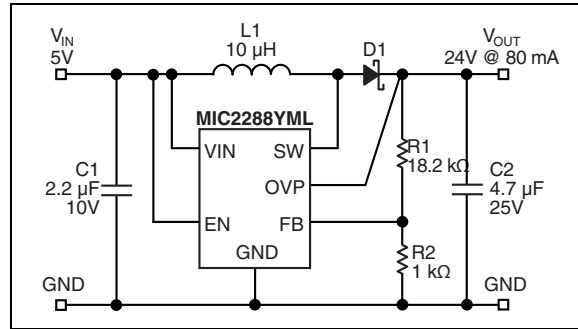

FIGURE 6-8: 5 V_{IN} to 24 V_{OUT} @ 80 mA.
- Updated part numbers C2 and L1 (Figure 6-8).